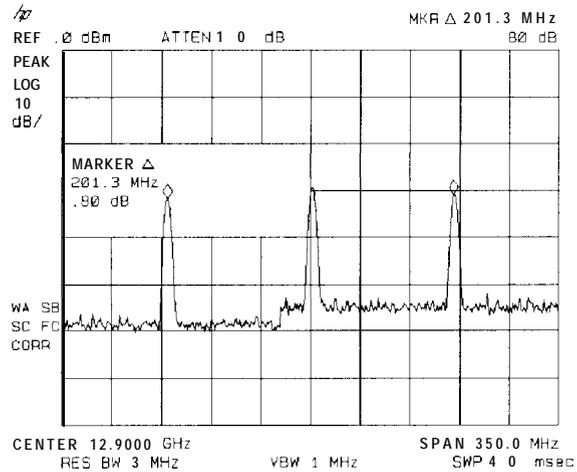

Figure 3-29. Harmonic Locking Off
7. Press **MARKER A** . Use **NEXT PK RIGHT** to place a marker on the farthest peak to the right. The marker readout displays the frequency and amplitude difference between the two comb teeth. See Figure 3-29.